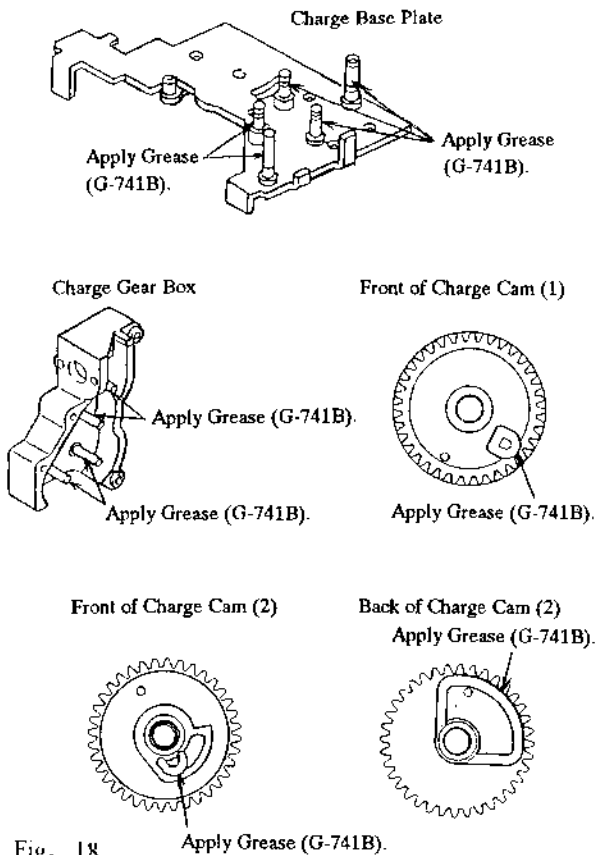

Fig. 18
- a) Apply Grease (G-741B) to the shafts on the Charge Base Plate and in the Charge Gear Box. (See Fig. 18)
- b) Apply Grease (G-741B) to the Charge Cam (1) (1AU74100) and Charge Cam (2) (1AU74300) (see Fig. 18), and install them on the Base Plate so that the marking hole position of the Charge Cam (1) is in alignment with the marking hole position of the Charge Cam (2).
- c) Apply Grease (G-741B) to the teeth of the Charge Gear (2) (1AU73800), Charge Gear (4) (1AU74000), Charge Gear (1) (1AU73700) and Charge Gear (3) (1AU73900).